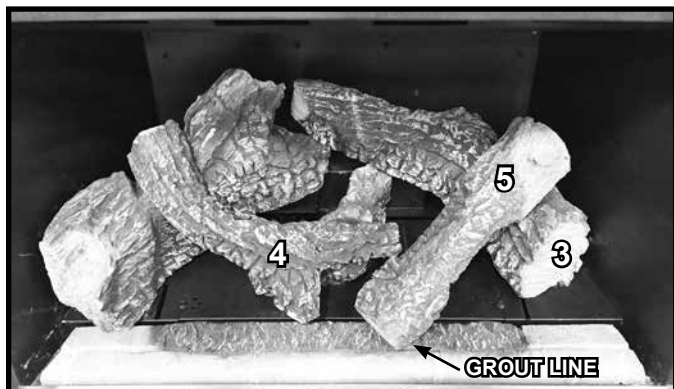

Figure 7. Log #5 Installed
**LOG #5:** The non-burnout end of log 5 will sit on the flat spot of log 3. The corner of the other end will sit on the base refractory grout line. See Figure 7.